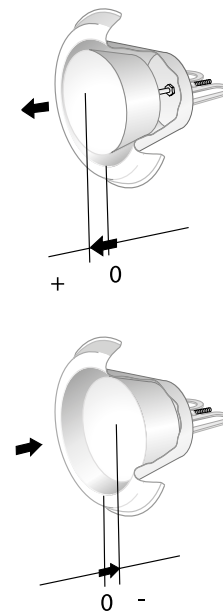

Figure 2. Commissioning.
The exhaust register is commissioned with air pressure measurement or air flow measurement. If air pressure is measured, a "measuring hook" is used, and when air flow is measured, any air flow measurer can be used. See Figures 2 and 3.
- Sound level dB(A) applies to rooms of 10 m² equivalent absorption area.
- The octave band correction value K_{OK} is given for the zero position of the cone according to Figure 2.